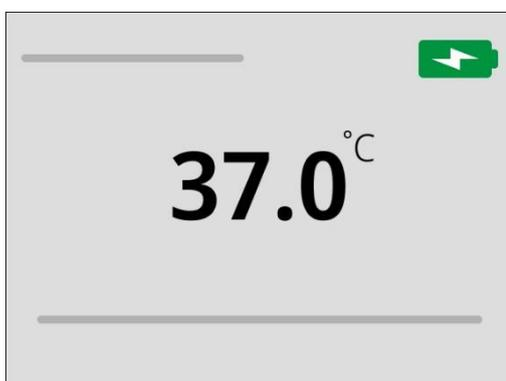

Figure 14.39 Default view (docked)
3. After the patient reset countdown, the chamber will display default information, depending on whether the chamber is docked or not (see Fig. 14.39 and 14.40).